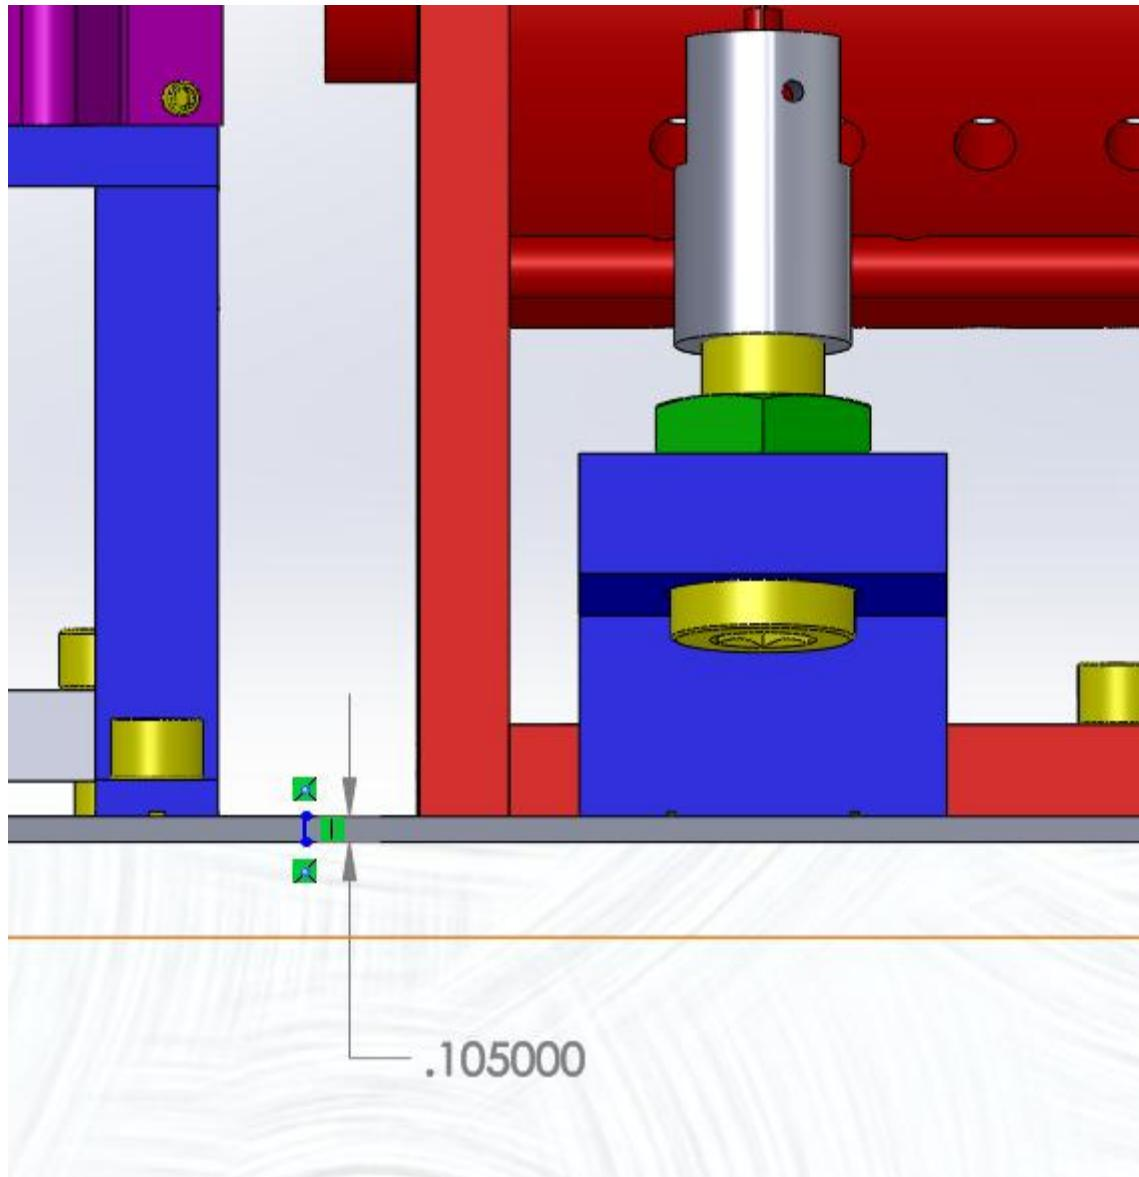

Figure 26: Nominal Height of Optics Table above the Structure Base
3. Place the Table Height Gauge (Figure 25) on the OMC Structure Base to set the nominal height of the suspended optical table 0.105 in above the base, as shown in Figure 26.